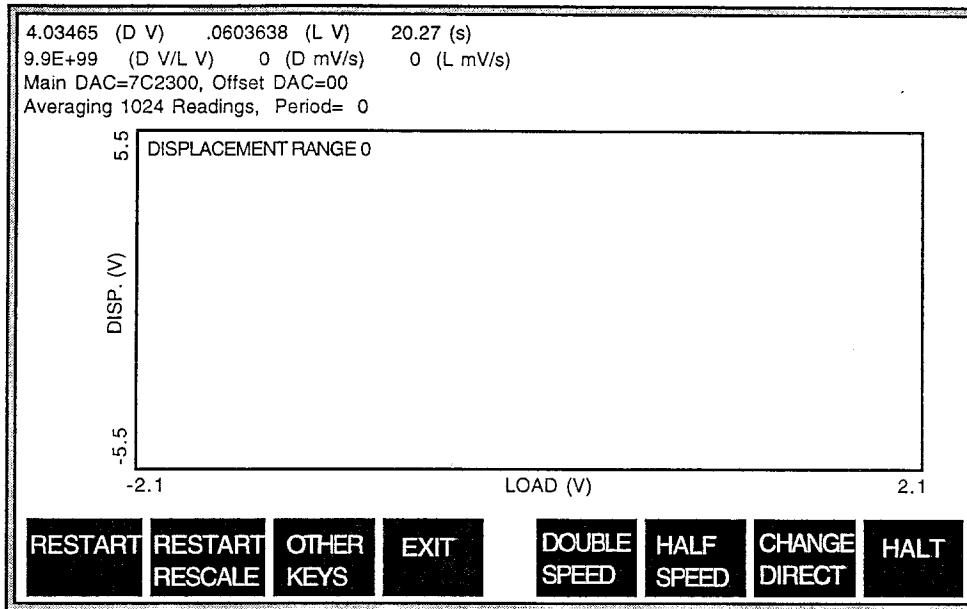

Figure 11.2 The Test Motion Screen
11.2.3.3). Figure 11.2 shows the test motion screen as displayed when Displacement Vs. Load is selected and all default options are chosen.